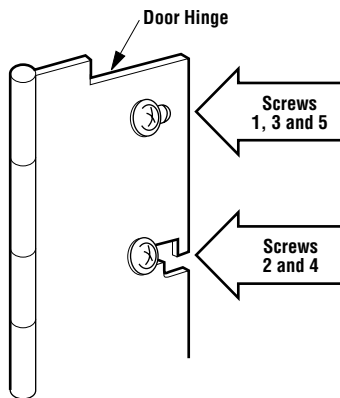

Figure 5
Step 2. Starting with either the right or left side door assembly, slide the door hinge (attached to the door) behind the two (2) screws that remain in the fireplace side, that align with the open slots in the hinge. Hang the door assembly over these two (2) screws so that the door hinge is set towards the rear of the fireplace as far as it will go (Figure 5).